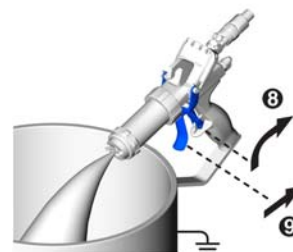

FIG. 21
11. Disengage the trigger lock on the gun. See FIG. 21.
12. *Purge air from resin and catalyst hoses:* with a grounded bucket below the gun, press the gun against the side of the bucket and pull the trigger to dispense. Continue dispensing until air-free fluid is dispensed from both ports on the front of the gun. See FIG. 21. The pump air pressure may need to increase slightly until the material begins to flow.